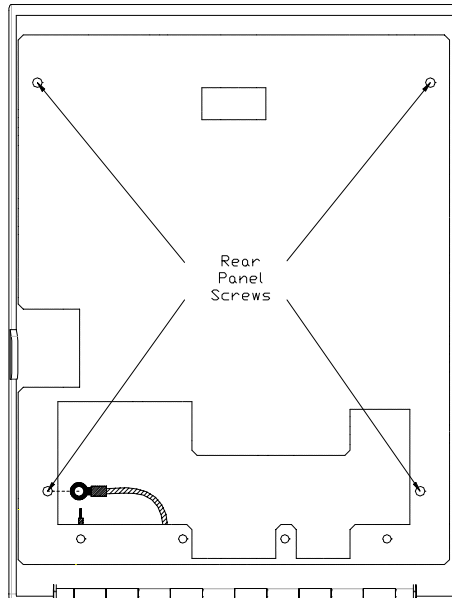

Figure 2.
5. Set the unit on a firm surface such as a table. Remove the four screws that secure the rear panel to the HandReader. See figure 2 below.